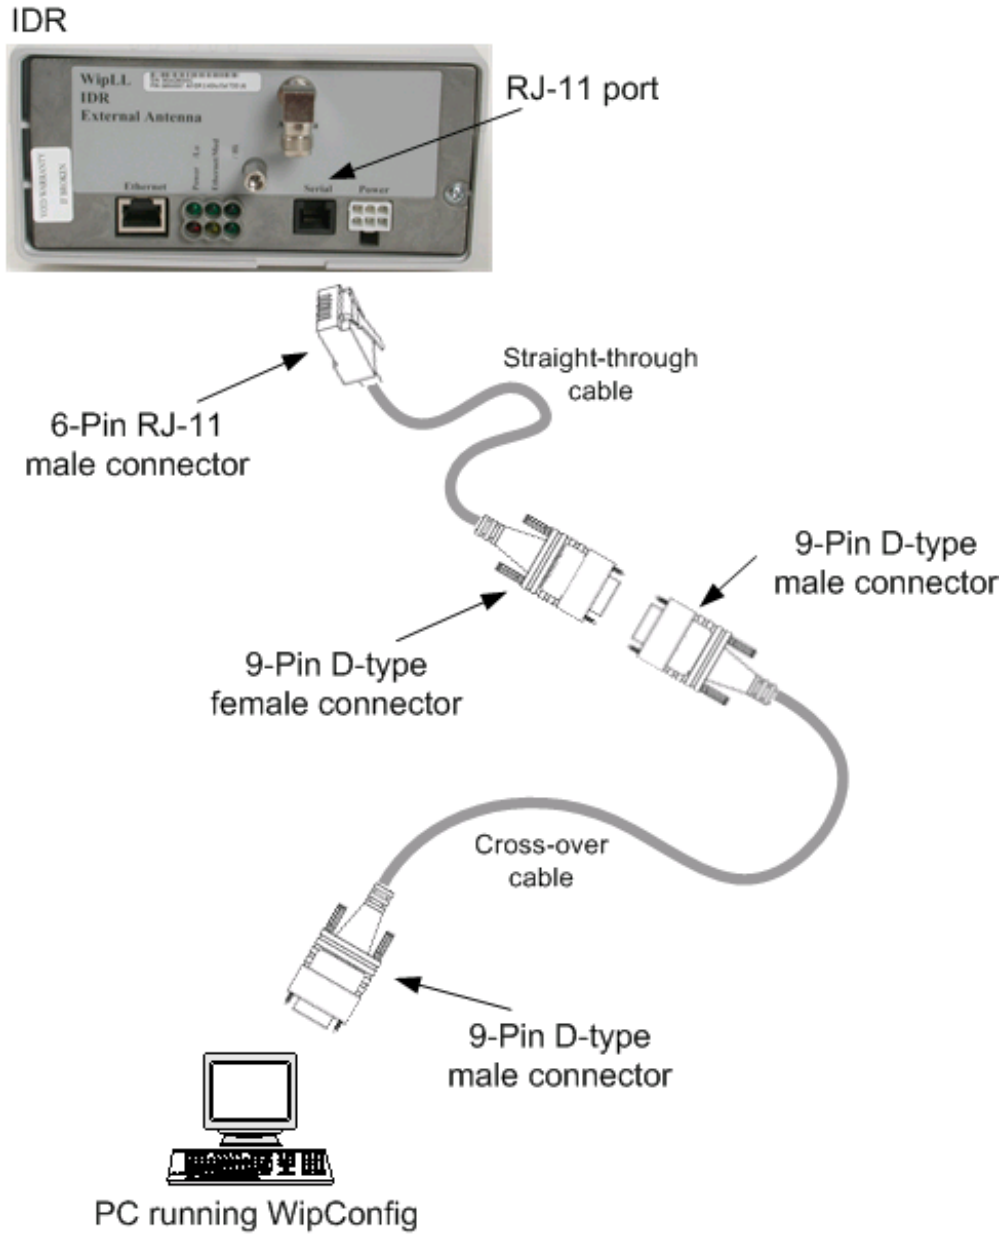

Figure 10-14: IDR-to-PC Serial Cable Connections
**To connect the IDR to the WipLL management station (PC):**
1. Connect the **6-Pin RJ-11** connector to the IDR's RJ-11 port (labeled **Serial**) located on the IDR's front panel (see Figure 10-14).
2. Connect the **9-Pin D-type female** connector, at the other end of the straight-through cable, to the **9-Pin D-type male** connector of the cross-over cable (see Figure 10-14).
3. Connect the **9-Pin D-type male** connector, at the other end of the cross-over cable, to the PC's serial port (see Figure 10-14).